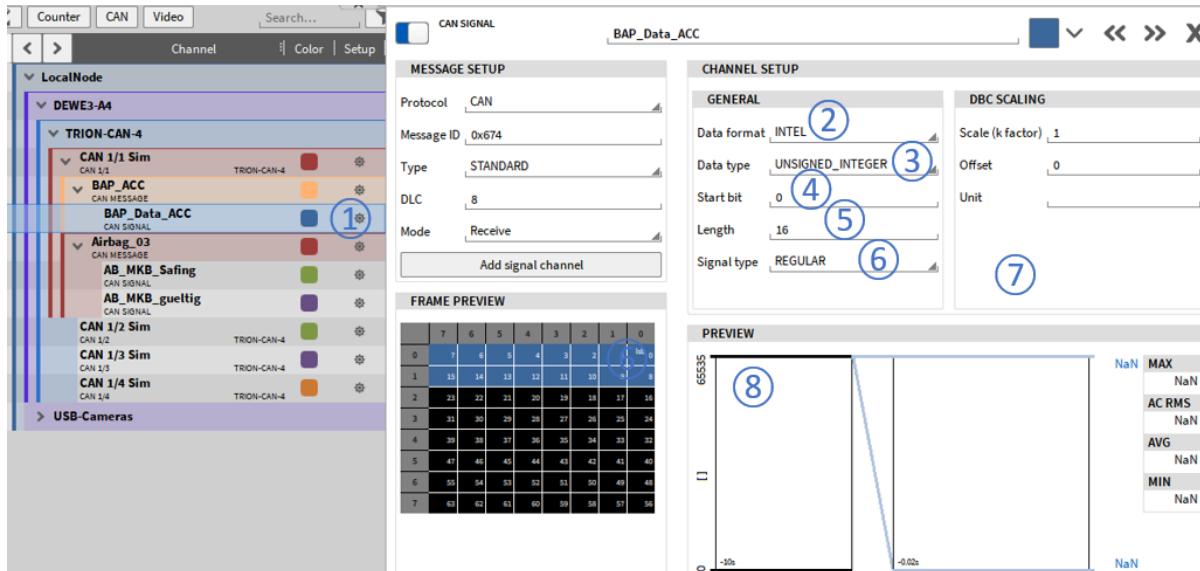

Fig. 7.208: CAN signal setup
The CAN signal setup can be accessed by pressing the gear button of the respective CAN signal in the Channel List (see ① in Fig. 7.208).
- Data format (see ② in Fig. 7.208): Intel or Motorola
- Data type (see ③ in Fig. 7.208): Double, Float, Signed Integer or Unsigned Integer
- Start bit (see ④ in Fig. 7.208): Define the start bit of the signal within its message
- Length (see ⑤ in Fig. 7.208): Define the length of the signal within its message
- Signal Type (see ⑥ in Fig. 7.208): Regular, Multiplexed or Multiplexor
- DBC Scaling (see ⑦ in Fig. 7.208): Change the scaling of the signal
- Preview: (see ⑧ in Fig. 7.208): The preview shows the past 10 seconds of the signal to check if proper settings have been applied to the signal.